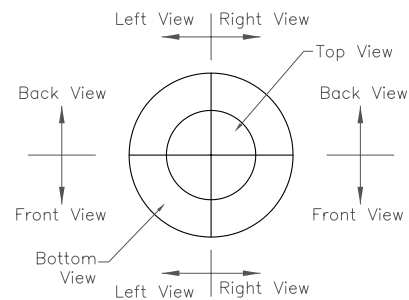

Figure 2-26 The directions of the compass
1. If you select a point inside the smaller circle in the first quadrant, the resultant view will be the Right, Back, or Top view. If you select a point outside the smaller circle and inside the bigger circle in this quadrant, the resultant view will be the Right, Back, or Bottom view (Figure 2-26).
the bigger circle in this quadrant, the resultant view will be the Left, Back, or Bottom view (Figure 2-26).
3. If you select a point inside the smaller circle in the third quadrant, the resultant view will be the Left, Front, or Top view. If you select a point outside the smaller circle and inside the bigger circle in this quadrant, the resultant view will be the Left, Front, or Bottom view (Figure 2-26).
4. If you select a point inside the smaller circle in the fourth quadrant, the resultant view will be the Right, Front, or Top view. If you select a point outside the smaller circle and inside the bigger circle in this quadrant, the resultant view will be the Right, Front, or Bottom view (Figure 2-26).